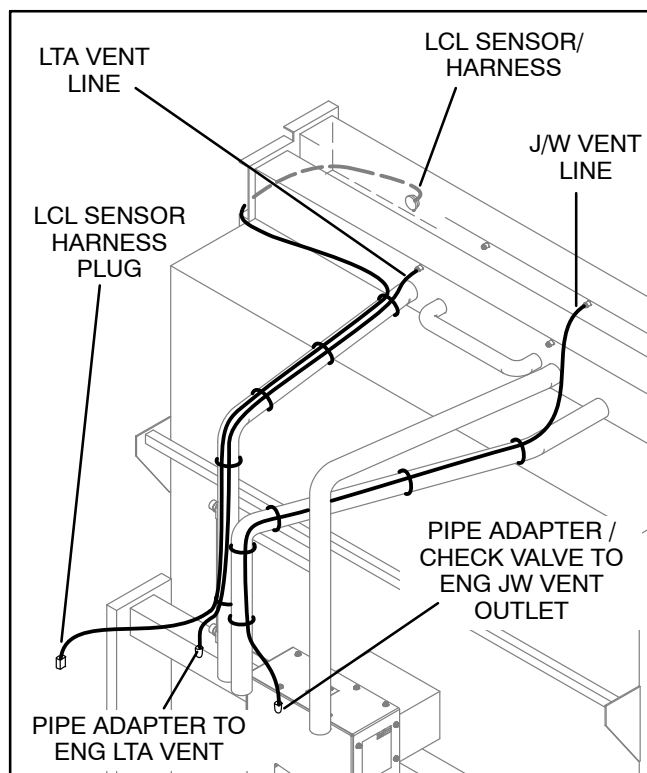

FIGURE 5-3. VENT PIPES/LOW COOLANT LEVEL SENSOR
Loosen the vent line at the engine jacket water (JW) vent outlet located on top of the engine thermostat housing (Figure 5-3).